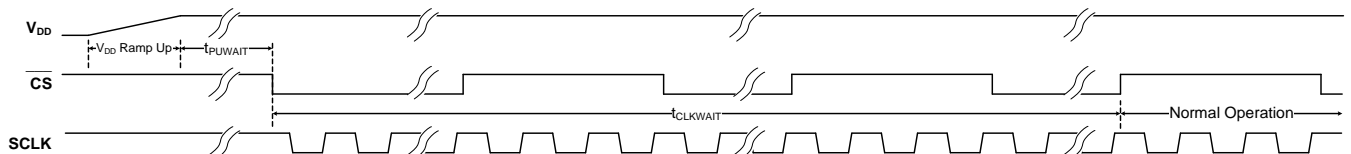

Figure 12: Power-Up Sequence
9) For t_{PUWAIT} and $t_{CLKWAIT}$, see Figure 12 on page 17.
Figure 12 shows the detailed power-up timing sequence.